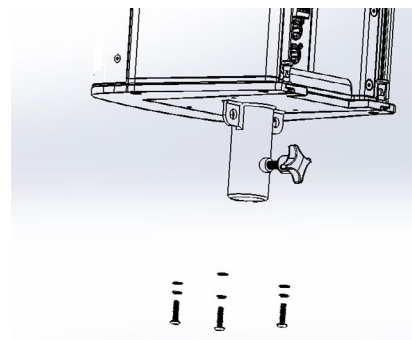

Figure 4 - secure screws and washers to Pole Mount & Cabinet
### 3. Install flat washers (F), locking washers (E) and M5x22 screws (D) to secure Pole Mount Plate in place (Figure 4)